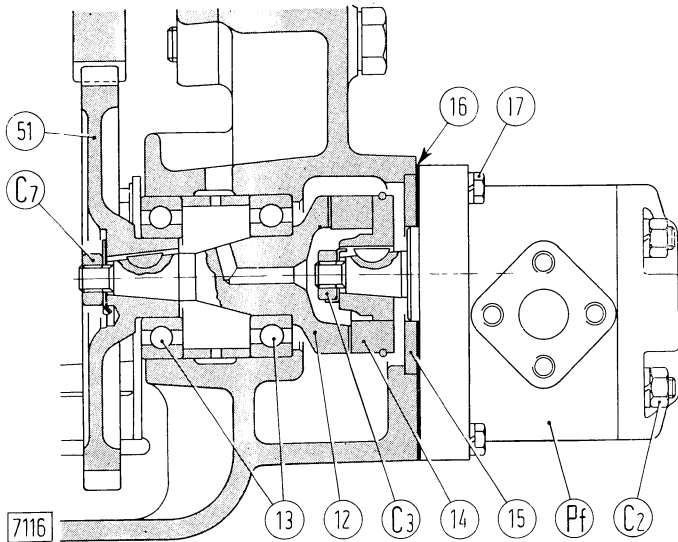

Fig. 174 - Hydraulic Pump Control Cross Section
To take off drive shaft (12, Fig. 174) and associated ball bearings (13) remove the complete converter unit from the machine and subsequently the converter from the case.
To dismantle the pump remove drive coupling (14, Fig. 174) using a universal puller, then dismantle the pump (see Fig. 172) by removing element retaining screw nuts (C₂), and mark the parts in order to restore them to their original position on reassembly.